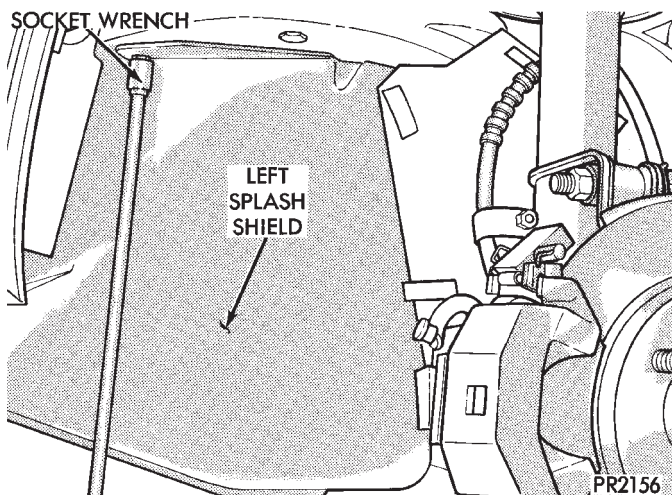

Fig. 2 Remove Left Splash Shield
- (5) Remove upper bell housing upper bolts.
- (6) Raise vehicle. Remove front wheels. Refer to Suspension, Group 2 to remove wheel hub nut and both drive shafts.
- (7) Remove left plastic splash to gain access to the transaxle (Fig. 2).